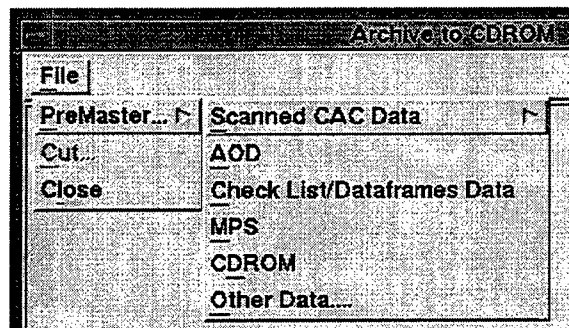

Fig. 34 — Archive to CDROM window
**3.3.6.2.1 Archive Data To CDROM** — This option “premasters” a set of data into a CD image and writes the data to a CD. The CD images conform to the International Standards Organization (ISO) 9660 standard for optical disk formats. When a user selects this option, MMC opens the **Archive to CDROM Window** (Fig. 34). Click on *Premaster* and select the data type to be archived: *Scanned CAC Data*, *Aircraft Optical Data*, *Checklists/Dataframes Data*, *Mission Planning Data*, *CDROM*, or *Other Data*. MMC will build an ISO 9660 Image from that data. If the user has built an ISO Image before, MMC will prompt the user to delete that file before building a new one. After premastering the data into an ISO Image, select *Cut* to actually copy the data to a CD. When finished, select *Close* to return to the **MMC Window**. There are six data types that MMC can archive to CD: